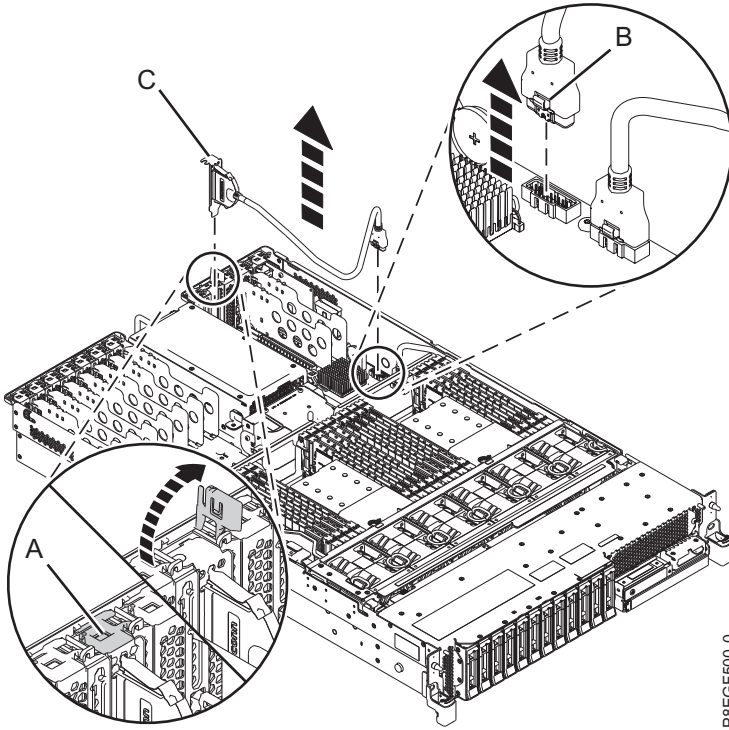

Figure 1. Removing the rear USB cable
2. At the rear of the system, open the adapter latch (A) and lift the USB cable housing (C) as shown in Figure 1 on page 4.